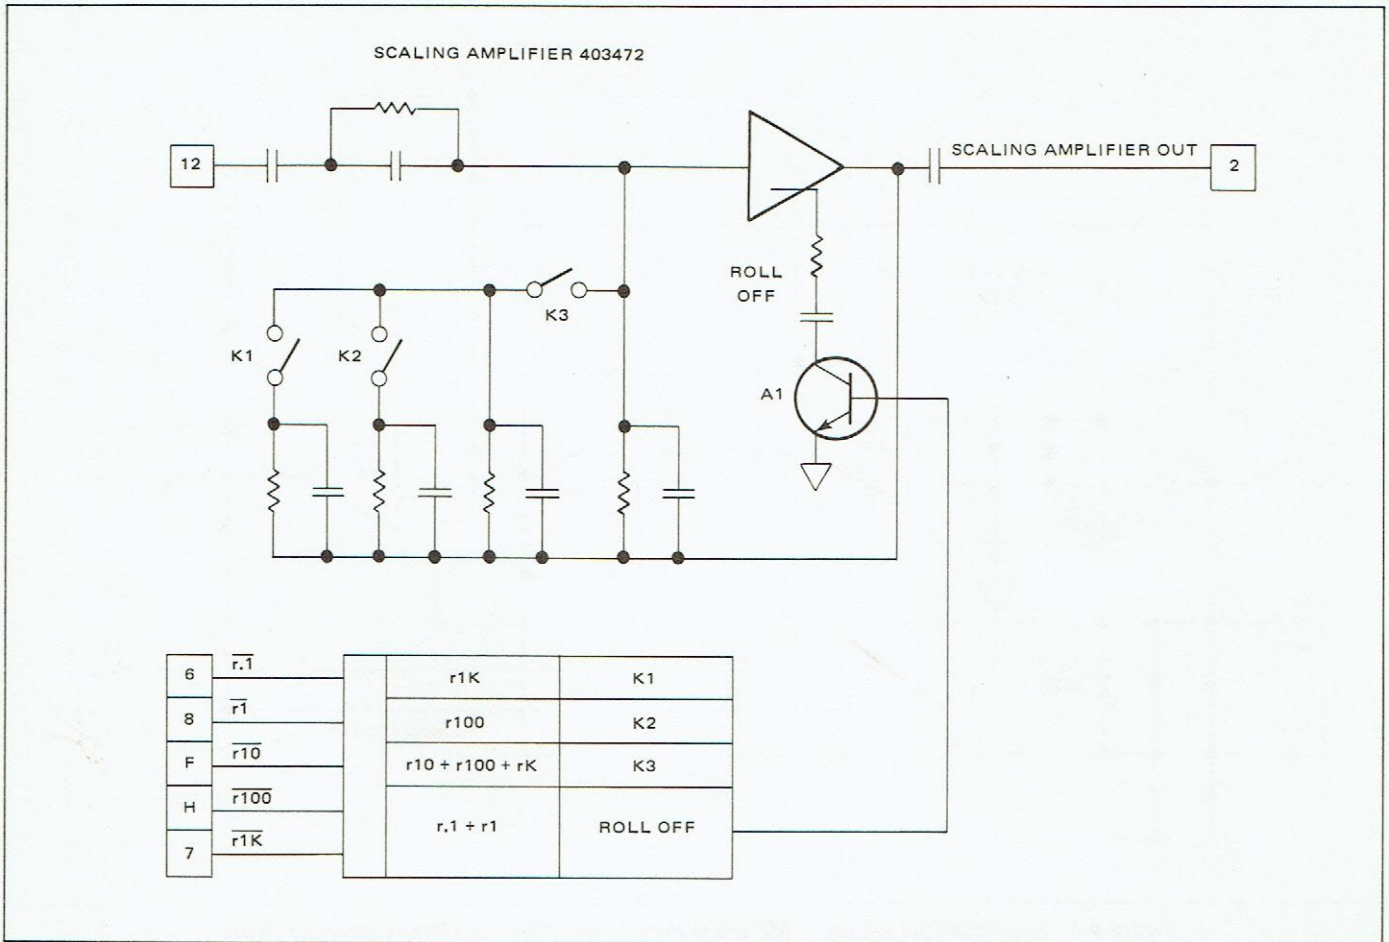

Figure 4.7 - Simplified Schematic - DIAC Scaling Amplifier
4.47 The scaling amplifier (shown simplified in figure 4.7) is one of the two DIAC converter boards used in the instrument. The scaling amplifier occupies connector J12 and consists of an ac compensated operational amplifier with four possible gain settings (X1, X.1, X.01, and X.001). The range lines are driven by decoded data from the accessory range lines. On the R.1 and R1 ranges, increased bandwidth is provided the scaling amplifier by transistor Q1 for the X1 amplifier setting.